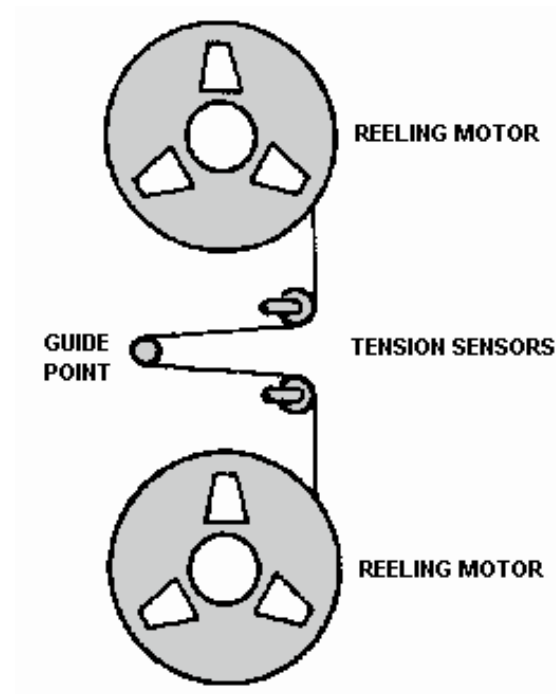

Figure 4-7.—Co-planar tape reeling configuration.
There are two basic tape reeling configurations: (1) co-planar, and (2) co-axial. Both of these describe the physical relationship between the supply reel and the take-up reel. The co-planar, which is used more often than the co-axial, has the supply reel and the take-up reel side by side. Figure 4-7 shows this configuration.